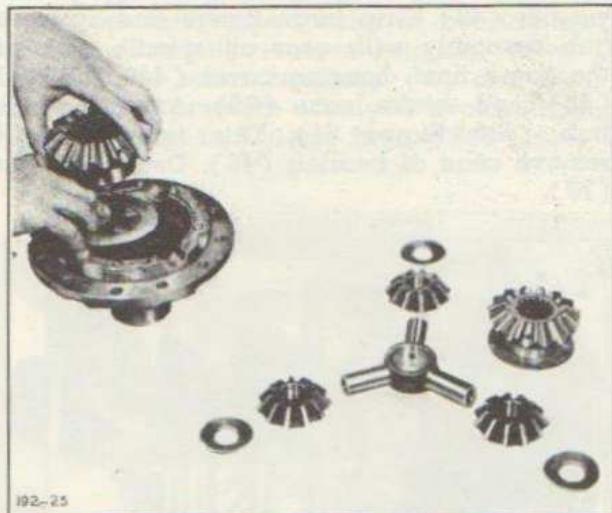

Fig. 18—Removing Gears and Thrust Washers
Remove spider (16) with pinion gears (17) and thrust washers (18). Remove side gears (19) and thrust washers (20). (See Figure 18).